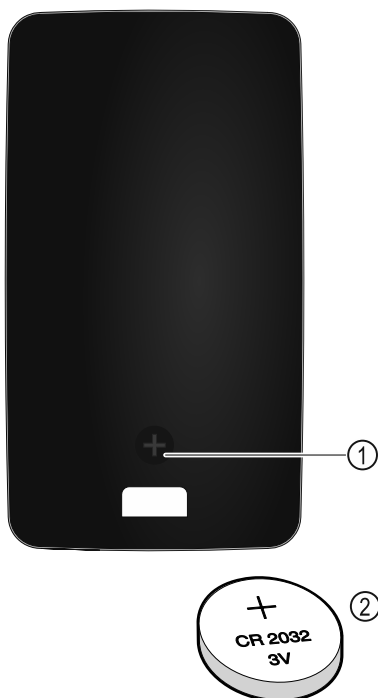

Fig. 260
The remote control is powered by a 3V CR 2032 battery Fig. 260 (2) available from specialist retailers.
- Undo screw Fig. 260 (1) on the back of the remote control.